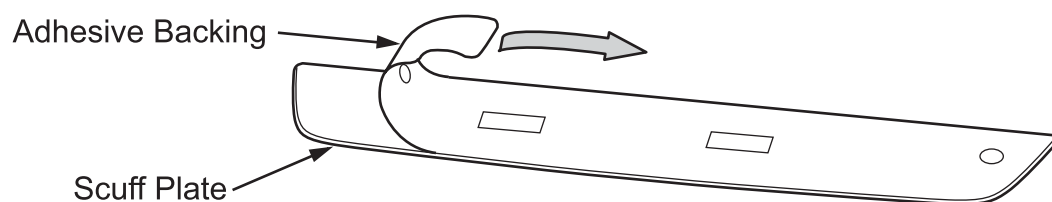

Figure 4
A. Remove the adhesive backing from Scuff Plate and discard. (Figure 4)